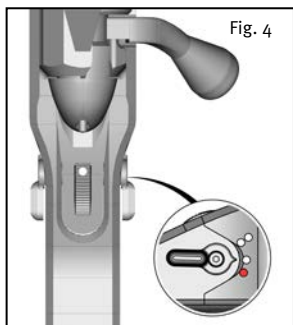

Fig. 4
**Safety Position (Fig. 4):**
Move rotary safety of the rifle to safety position (Fig. 4). Insert the magazine into the rifle and press it in until it locks with an audible click.
1. Move rotary safety of the rifle to Safety Position (Fig. 4).
By turning the bolt handle  $70^{\circ}$  upwards and retracting the bolt the dust cover, ejection port is opened automatically and the spent cartridge shell will be extracted and ejected. Moving the bolt forward will feed a new cartridge into the cartridge chamber of the barrel. Relock the bolt by turning the bolt handle. Move rotary safety back to Safety Position (Fig. 4)
1. Move rotary safety in Safety Position (Fig. 4).
4. Move rotary safety slide to Safety Position (Fig. 4).